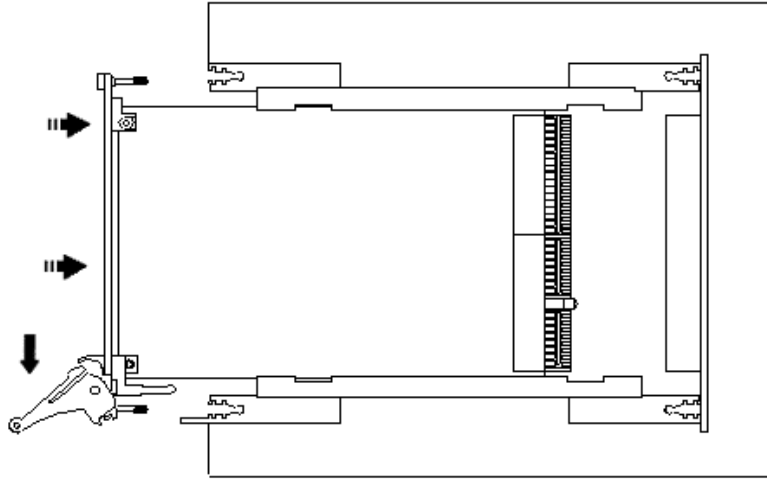

Figure 3-3: Ejector handles position during module insertion
- Carefully slide the PXI board to the rear of the chassis, make sure that the ejector handles are pushed **out** (as shown in Figure 3-3).